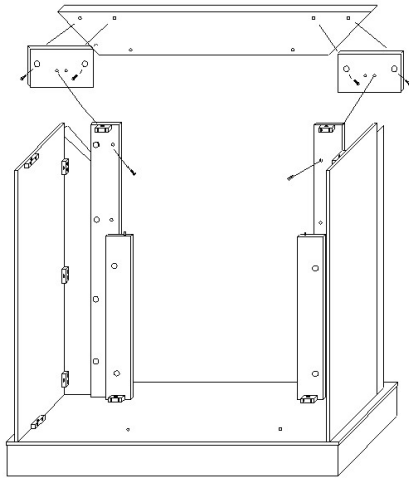

Fig. 6
Step 6: Attach 2 Wood Connectors [M] to Front Decorative Panel [K] with 4 KD screws. Attach Front Decorative panel [K] and wood connectors [M] to Front Panels with 2 KD screws. See Fig. 6